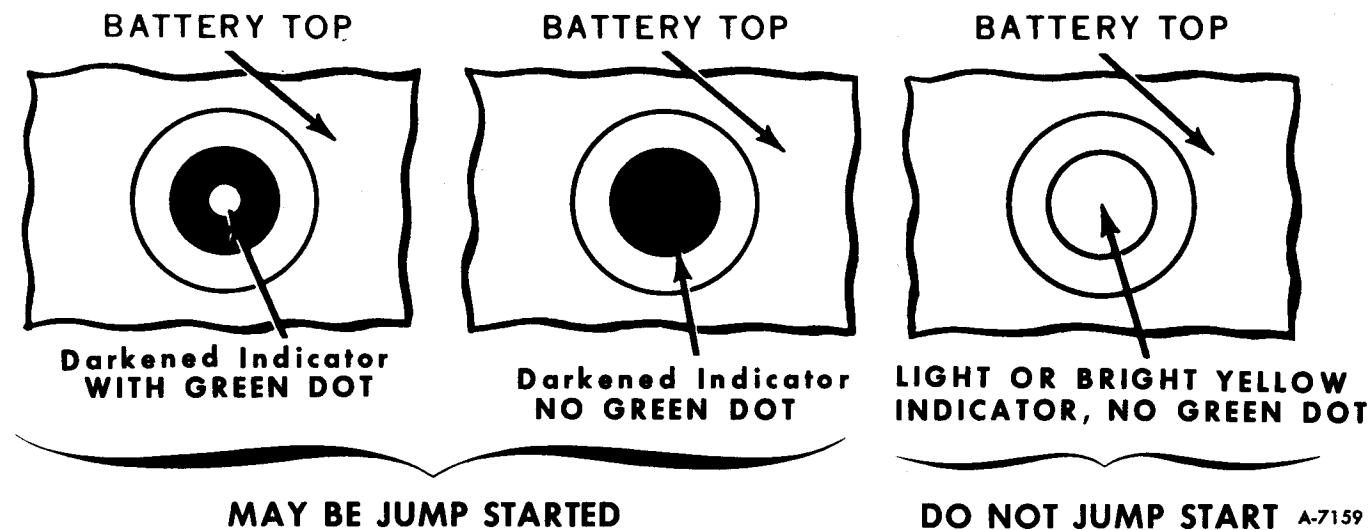

Figure 2—Test Indicator Conditions (Maintenance Free Battery)
STEP 2 - TEST INDICATOR (FIGURE 2)
On rare occasions following a prolonged cranking, the green dot in the test indicator may still be visible as shown in figure 2. Should this occur, a boost charge of 20-ampere hours (maximum) is permissible. When there has been a cranking complaint and the test indicator is completely dark in appearance, charge the battery (50-75 ampere hours) and then proceed to test the battery.
4. If the discharged battery has filler caps, check the fluid level. (Do not use an open flame to check and do not smoke.) Add clear drinking water to the proper level if low, and replace caps before jump starting. If the battery is a sealed-type, do not attempt to jump start the vehicle, or charge or test the battery if the center of the test indicator in the battery is bright or light yellow (figure 2). Instead, install a new battery.